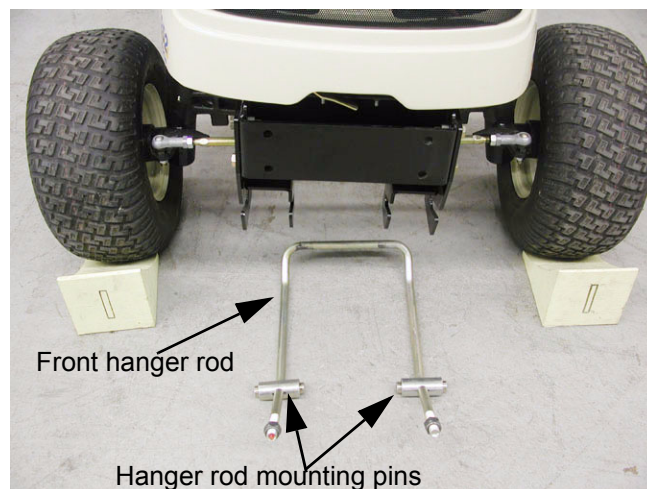

Figure 3.1
- 3.1. Assemble the hanger rod mounting pins to the front hanger rod, then install the nylon locking nuts onto the hanger rod ends. Tighten the nuts until they are about 1" from the ends of the rod. See Figure 3.1.